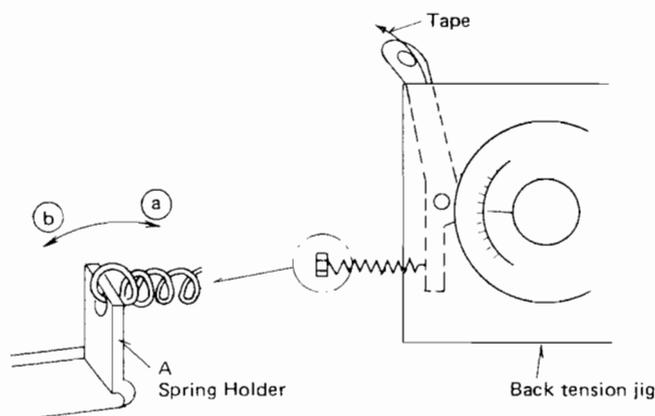

Fig. 1-16
1. If the mean value exceeds 38 g-cm, adjust the value to 37 g-cm by bending the spring holder (A) in the direction of arrow (a) as shown in Fig. 1-16.
2. If the pointer mean value is much less than 36 g-cm, adjust the pointer mean value for 37 g-cm by bending the spring holder (A) in the direction of arrow (b).